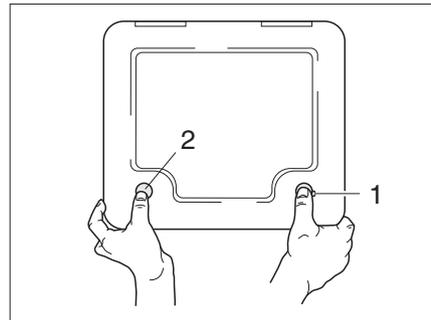

Fig. 14 External flap Thetford cassette with magnet
- ▶ Insert the key into the locking cylinder of the push-button lock (Fig. 14,1) and turn a quarter turn.
- ▶ Press the push-button lock (Fig. 14,1) and the magnetic push button (Fig. 14,2) simultaneously with your thumbs and open the external flap.
The external flap (Fig. 14) is held by the magnetic push button (Fig. 14,2) against the exterior wall of the camper van.
- ▶ Insert the key into the locking cylinder (Fig. 14,1) and turn a quarter turn.